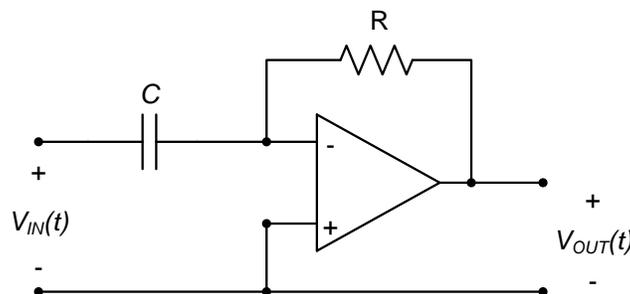

Figure 1. Differentiating circuit.
The circuit we will be concerned with in this assignment is shown in Fig. 1. The output of the circuit, $V_{OUT}(t)$, is proportional to the inverse of the derivative of the input voltage, $V_{IN}(t)$. The constant of proportionality is determined by the values of the resistance and capacitance in the circuit. In this assignment, we will analytically estimate the relationship between the circuit's input and output and compare this with measured input and output signals.
- a. Construct the circuit shown in Fig. 1, using $R=1.5k\Omega$ and $C = 100nF$. Use $V+$ and $V-$ as the positive and negative power supplies of the operational amplifier. Use the oscilloscope to measure both the input and output voltages $V_{IN}(t)$ and $V_{OUT}(t)$. Set the oscilloscope measurements to provide at least the amplitude of each of these waveforms. (As always, measure the actual resistance value; measure the capacitance value if you have the appropriated instrument – some DMMs have a capacitance meter – otherwise, assume that the nominal capacitance value is correct.)
- i. Apply a sinusoidal input voltage with frequency = 1kHz, amplitude = 1V, and offset = 0V to the circuit of Fig. 1. Use your oscilloscope to display the data listed above (waveforms corresponding to $V_{IN}(t)$ and $V_{OUT}(t)$; measurement window displaying amplitudes of $V_{IN}(t)$ and $V_{OUT}(t)$). Record the image of the oscilloscope window, showing the waveforms and their measured amplitudes.